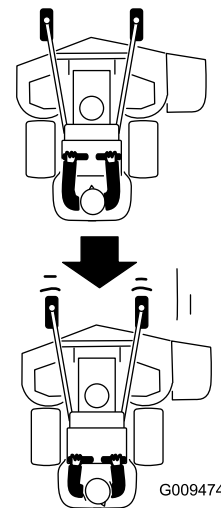

Figure 26
3. Slowly pull the motion-control levers rearward (Figure 26).